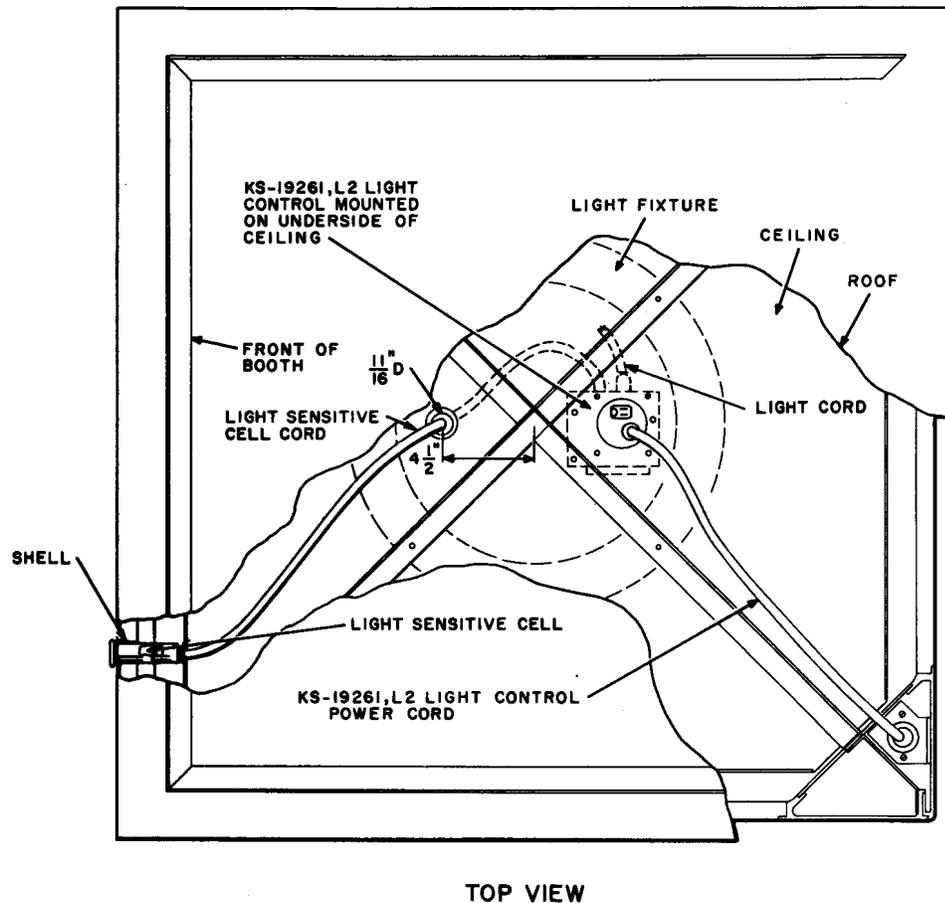

Fig. 17—Ceiling Layout of KS-14611 Booth (Top View)
- (7) Drill an 11/16-inch diameter hole down through ceiling 4-1/2 inches toward front of booth from center of cross braces (Fig. 17).